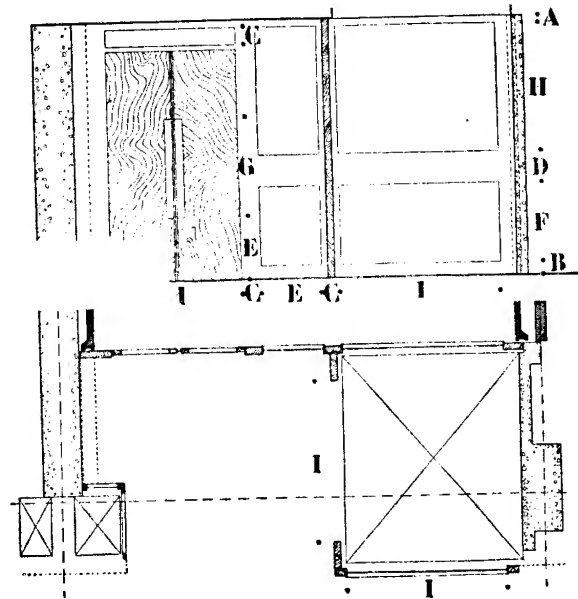

FIG. 52
d) UN EJEMPLO DE CARPINTERÍA. FIG. 52.